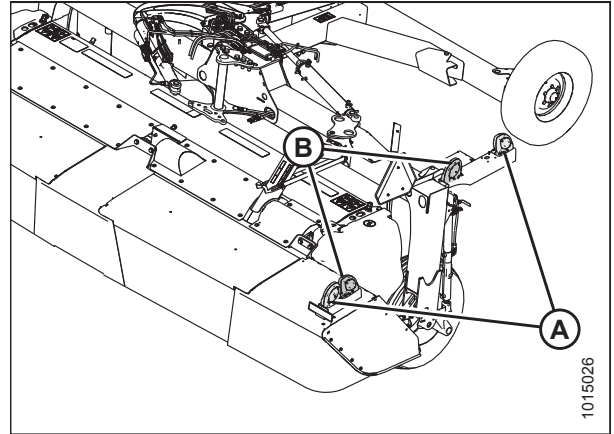

Figure 3.95: Lighting Locations (with Road Friendly Transport™)
- If the disc mower includes the Road Friendly Transport™ system, refer to Figure 3.95, page 87.